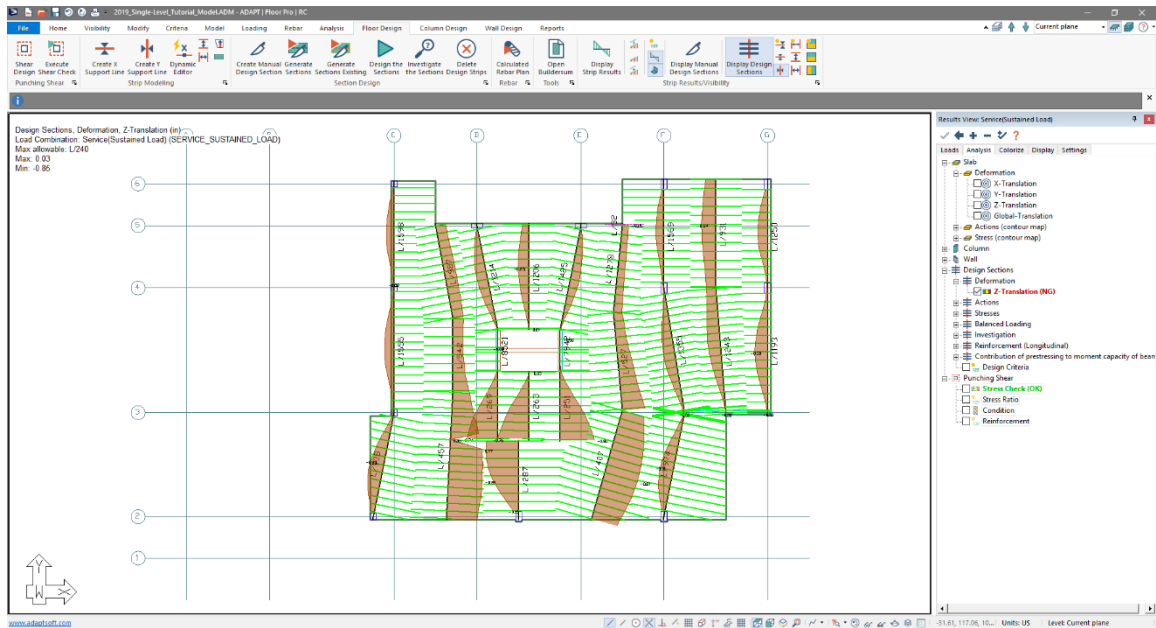

Figure 7-18
- In the *Analysis* tab tree, navigate to *Design Sections* → *Deformation* → *Z-Translation* and check the box next to *Z-translation* to see the results for the *Service (Sustained Load)* load combination. The user should now see the strip results for the Y-direction support line's deflection check as shown in **FIGURE 7-18**.